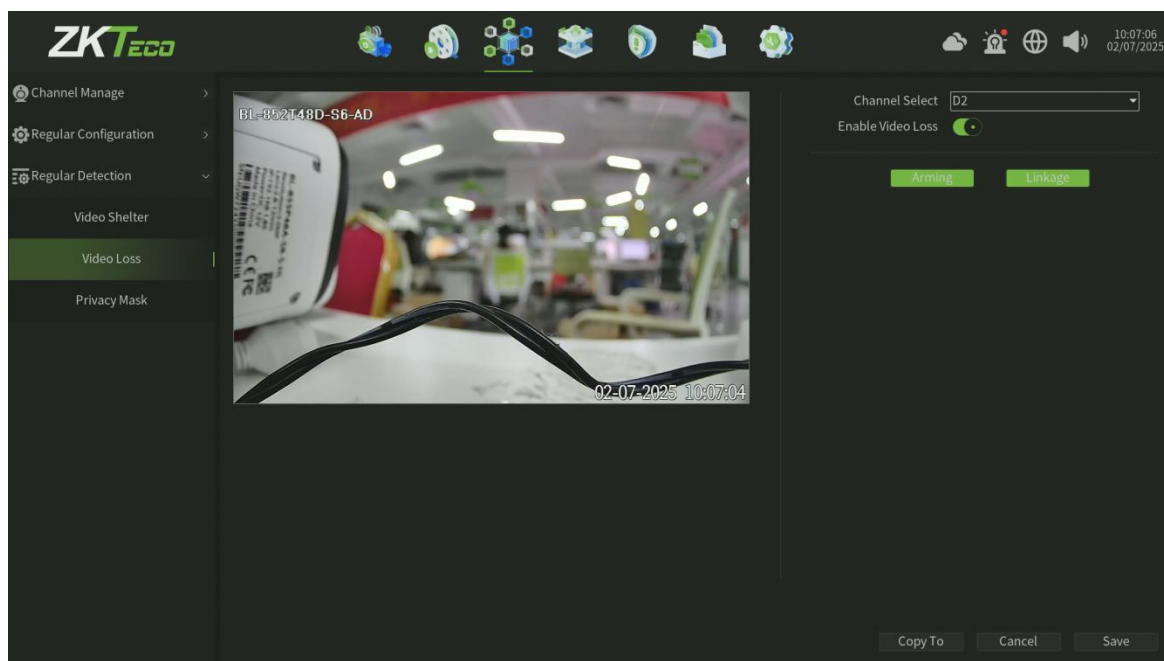

Figure 6.15 Video Loss
1. Enter Video Lost interface of Regular Detection and select a channel you want to setup Video Lost Alarm, as shown in figure 6.15